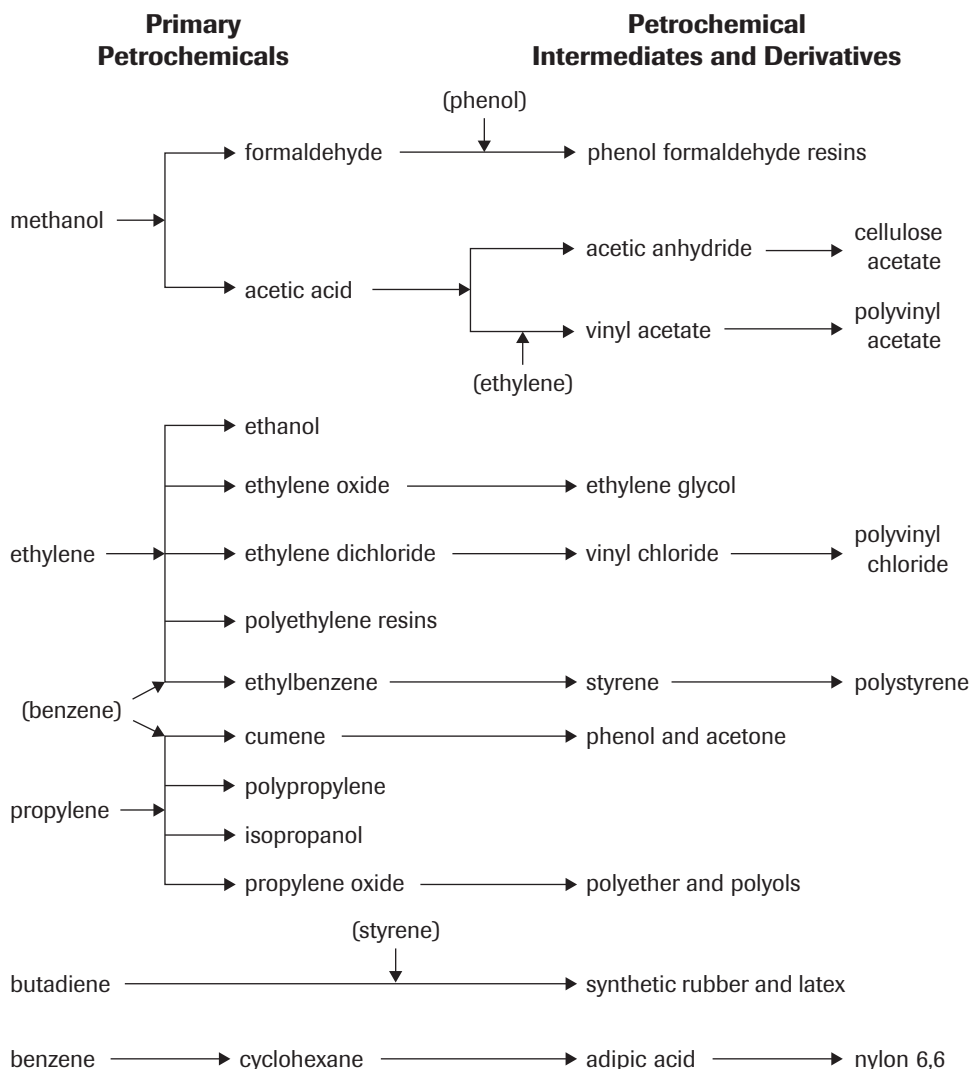

Figure 2
Chemical engineers use the primary petrochemicals in **Figure 1** to produce the intermediates and derivatives in **Figure 2**. Notice the extensive petrochemical industry that can be created from a few basic chemical building blocks—from primary petrochemicals obtained from crude oil and natural gas. Many new compounds can be made by adding other substituents (such as chlorine and oxygen), changing the bonding, or joining small molecules together. You will learn about polymers (listed mostly in the last column of Figure 2) in Section 10.5.
4. Draw structural formulas for the following list of intermediate, reagent, and derivative chemicals from **Figure 2**. Follow the bonding capacity of each element. The molecular formula is not given if you should know it. You might want to reconstruct Figure 2 in your notebook using full structural formulas. The chemicals marked with an asterisk (*) are ones that you will know by the end of this chapter.
5. All of the chemicals in question 4 are involved in organic chemical reactions. Choose any two of the reactions from **Figure 1** or **Figure 2** and hypothesize a balanced chemical equation for the reactions; e.g., methanol to acetic acid, ethene to ethanol, ethene to styrene, and/or benzene to cyclohexane.
6. Polymers are long-chain molecules that can be made into plastics and synthetic fabrics. List six chemicals from Figure 2 that you think might be classified as polymers (e.g., polyethylene).
8. Use a reference to find the basic physical properties of two of the chemicals listed in **Figure 1** or **Figure 2**; e.g., styrene, ethylene dichloride, acetic acid, vinyl chloride, and/or formaldehyde.
In **Figure 2**, ethene (ethylene) is shown as undergoing reactions to produce ethanol, ethylene oxide, ethylene dichloride, polyethylene resins, and ethylbenzene. You will study some of these reactions, and others, in the pages that follow. **Table 2** gives the locations of some of the chemical plants that produce products related to ethane and ethene.